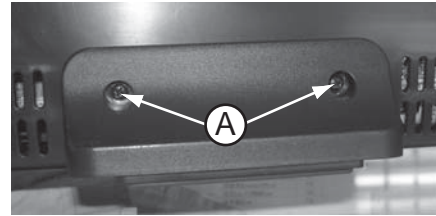

Figure 1
- 1) Loosen 2 screws "A" at the rear panel to remove rear stand as shown in figure 1.